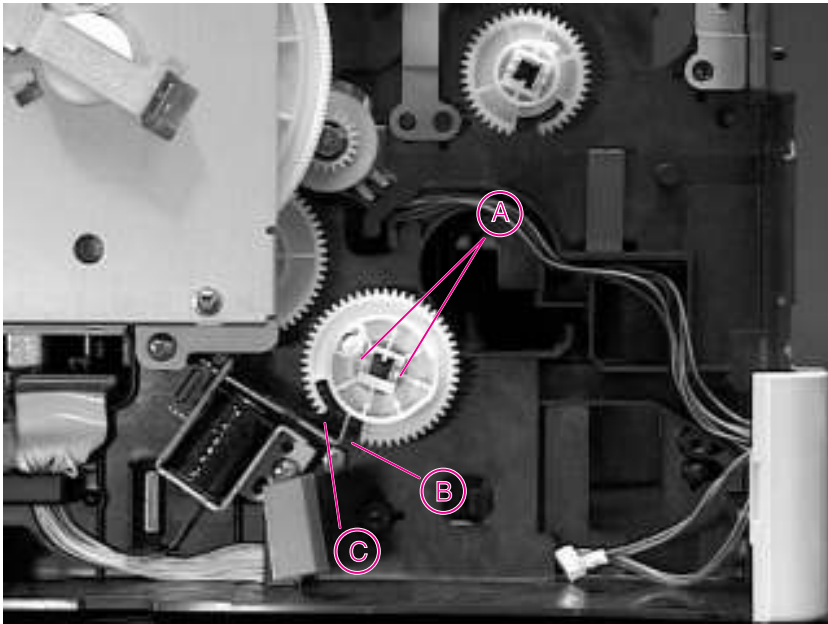

Figure 6-43 Tray 2 Shaft (left side view of printer)
- 3 Align the solenoid arm (B) (see Figure 6-43) with the gap in the gear (on the left side of the printer).
- 4 Press the release tabs (A) outward, and slide the gear off the shaft.